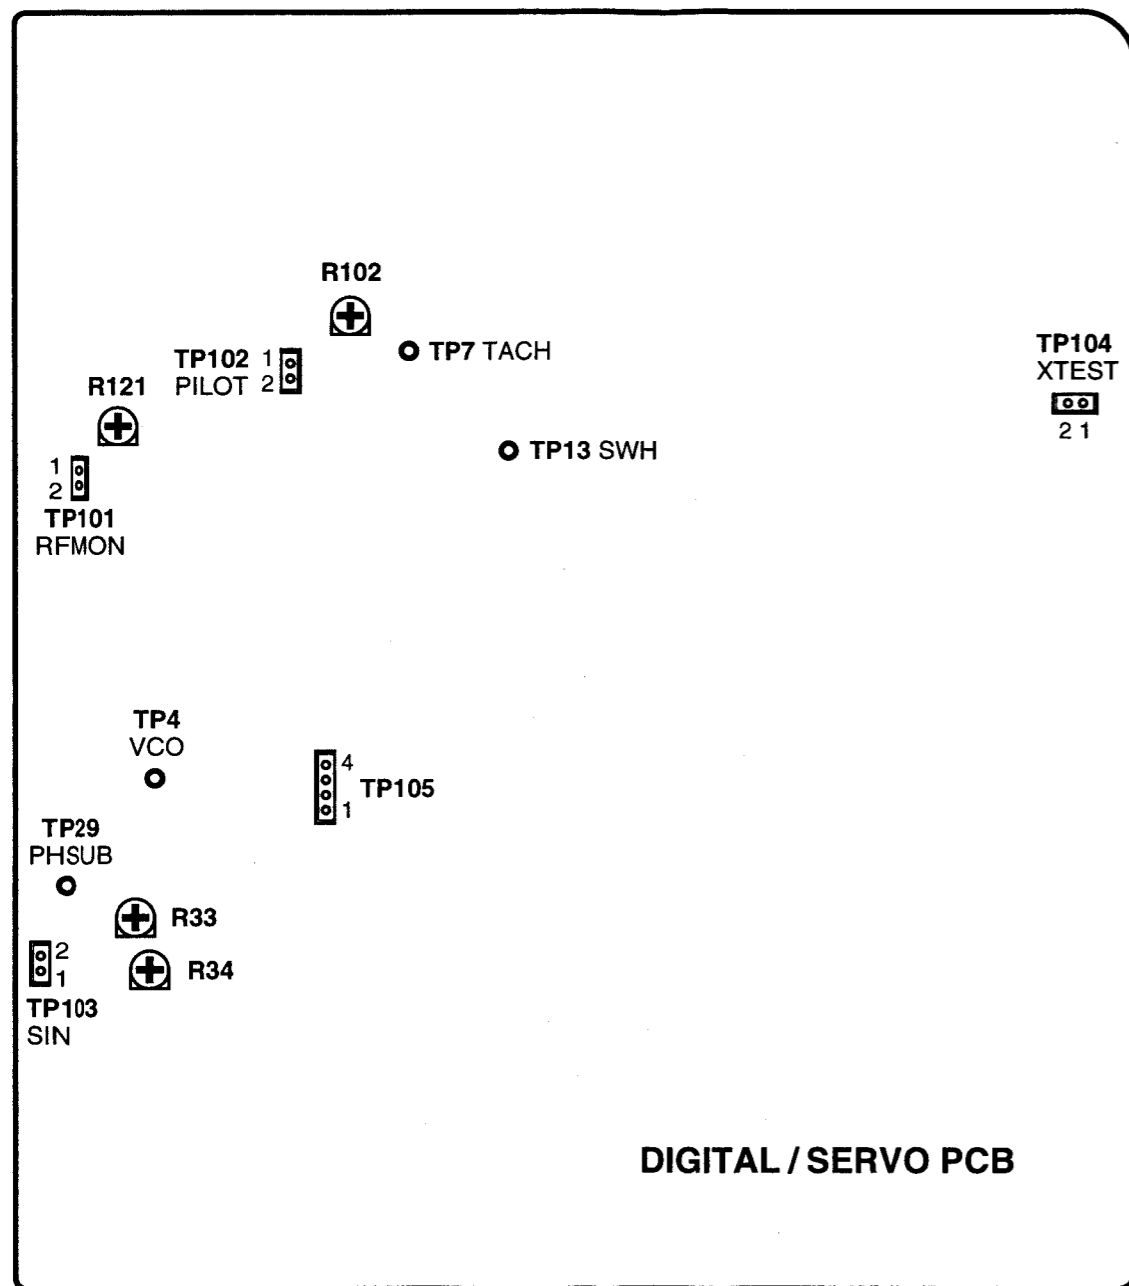

Fig. 5-5 Adjustment and test point locations (DIGITAL/SERBO PCB)
**5-1. Adjustment of the Data Strobe System (Refer to Fig. 5-5.)**
**5-2. Adjustment and Confirmation of the Servo System (Refer to Figs. 5-5 and 5-6.)**
**5-1. データ・ストロブ部調整 (図 5-5 参照)**
**5-2. サーボ部調整及び確認 (図 5-5, 5-6 参照)**